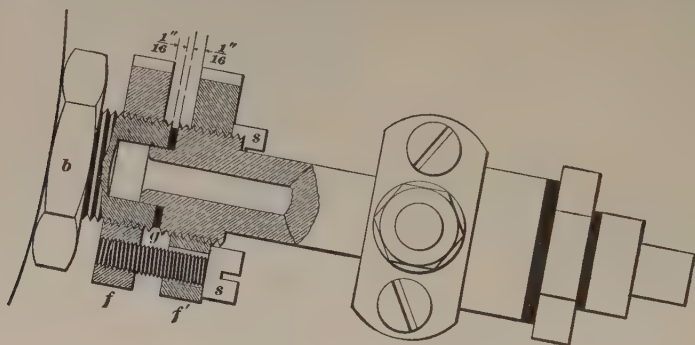
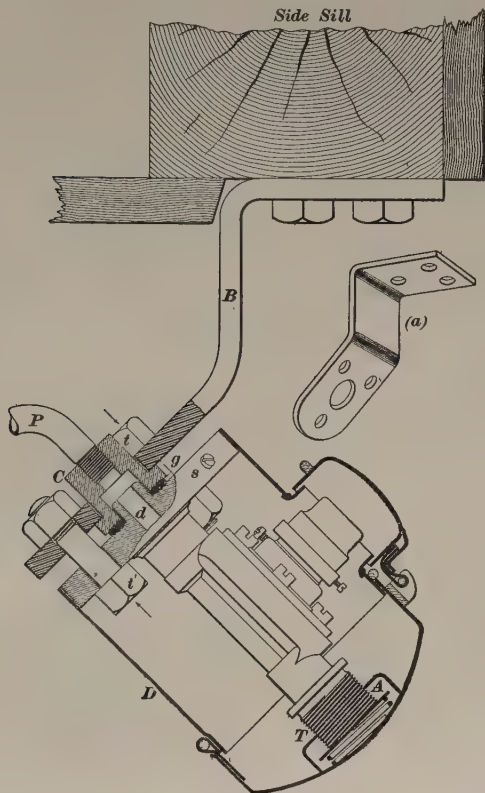
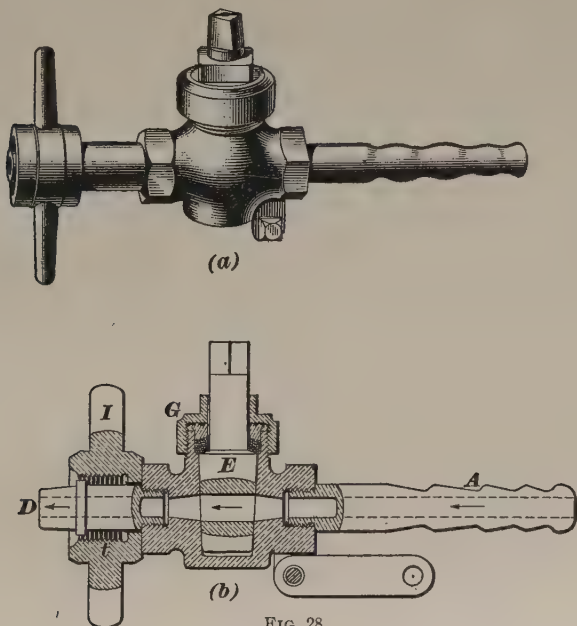

FIG. 20
FIG. 21
FIG. 28
18. The holder valve, Fig. 20, is connected to the holder in the following manner: The flange *f* is first screwed on to the inlet bushing *b* until the bushing projects through the flange about $\frac{1}{16}$ inch, as shown. Next screw the flange *f'* on to the end of the holder valve until there is about a $\frac{1}{16}$ -inch projection there also. Then put a gasket in, as at *g*, and screw the two flanges together by means of the screws *s, s*, taking care that the flanges are pulled up squarely so that the gasket will be compressed evenly and will not leak.
before connecting up. When all the piping has been fitted up fairly in place, take it down again and solder around the flanges. The pipe P , Fig. 21, must be passed through the bracket B before the connection C is soldered on. Remove all burrs from the ends of the pipes and blow out all scale and dirt from inside the pipes, first jarring the latter well to loosen up the dirt, etc.
20. Fixing Up the Pipes.—Lead gaskets are used in all the joints (both in the pipe joints and also in those between holder valve and holder inlet at g , Fig. 20), and also in between flanges f and f' of the regulator connection, Figs. 5 and 6. Before screwing the filling valve to its bracket, the cover D , Fig. 21, must be taken off. To do this, remove the screws s , open the cover at the end, and rap with a piece of wood on the end A of the valve; the cover will then come off without taking the valve apart. Put a lead washer in at g and then place the end d of the
Now connect a hose to *A*, Fig. 21, and then, by means of a force pump or otherwise, put in a pressure of about 15 atmospheres (220 pounds per square inch). Then close the holder valve, and if the gauge shows that the pressure does
outside view and (b) a sectional one. The charging hose is permanently secured to the nipple *A* of the fitting. In making the connection, the hose fitting is brought up against the filling valve so that the clamp *B* fits over the end of the valve and engages with the flange *n* (see Fig. 7). The hand wheel *C* is then screwed up, forcing the nozzle *D* into the end *A* of the valve, Fig. 21, making a practically tight joint, this being facilitated by the use of a small paper washer or ferrule that is slipped over the end of the nozzle before
Another hose fitting in use is shown in Fig. 28, (*a*) being an outside view and (*b*) a sectional one. The hose is attached to the nipple *A*, and the hose fitting is connected with the filling valve by entering the nozzle *D* into the valve at *A* (see Fig. 21). The joint is made tight by screwing up the sleeve nut *L*; the thread *t* engages with the screwed end **T** of the valve. (This nut is shown in its extreme positions in (*a*) and (*b*), respectively.) This fitting, as here shown, is provided with a plug cock *E*, the same as in the fitting just described, *G* being the gland cap, as before.